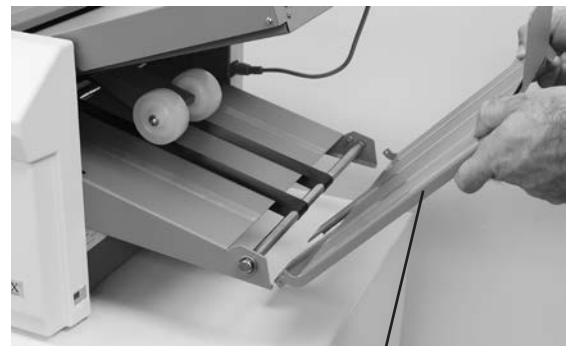

Fig. 4
5. Insert the telescoping extension tray into the end of the outfeed conveyor (Fig. 4).